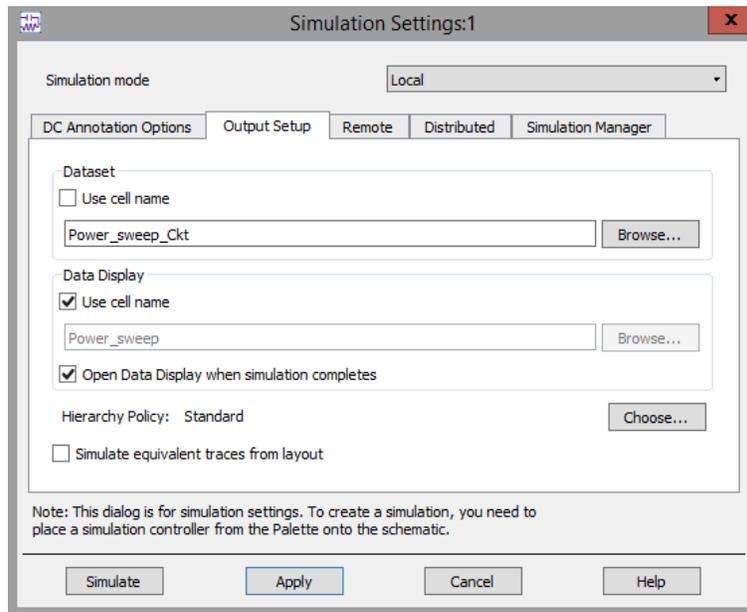

Figure 10: Simulation Settings
2. Before running the simulation, go to Simulate \Rightarrow Simulate Settings from top menu and change the Dataset name to Power_sweep_Ckt as shown in Figure 10